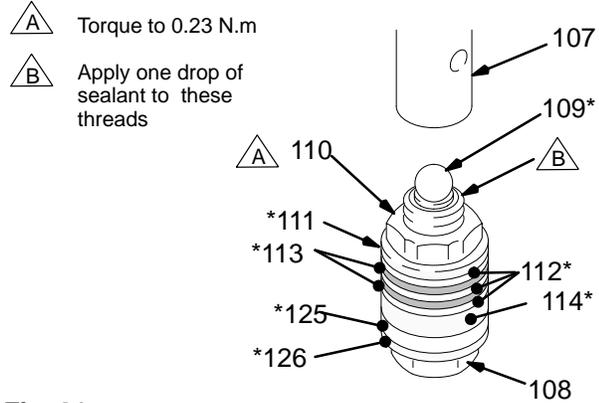

Fig. 21 03178
1. Check the outside of the piston rod (107) and the inside of the cylinder (115) for wear. Replace worn parts to ensure a good seal with the new packings.
2. Stack these parts onto the piston valve (108) one at a time: the backup washer (126*) and u-cup (125*), female gland (114*), alternately three plastic (112*) with two leather packings (113*), and the male gland (111*). See Fig. 21.
3. Tighten the nut (110) onto the piston valve (108) to 0.23 N.m. See Fig. 21.
5. Place the ball (109*) on the piston valve (108). See Fig. 21.